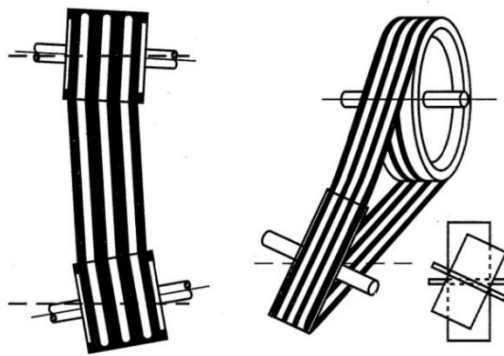

Figure 4.12 Shafts are not parallel
Figures 4.12 and **4.13** show misalignment of shafts and pulleys. Misalignment can result in the following:
- The shafts are not parallel to each other, as shown in **Figure 4.12**.